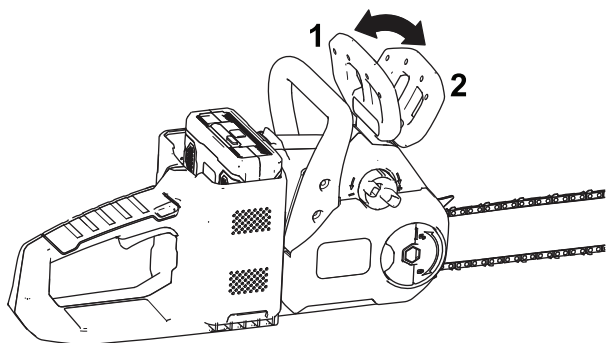

Figure 9
- Ensure that the chain brake is in the OPERATING position (Figure 9).
Whenever you are not using the saw or are transporting the saw to or from the work area, move the chain brake to the STOP position (Figure 9) and remove the battery.